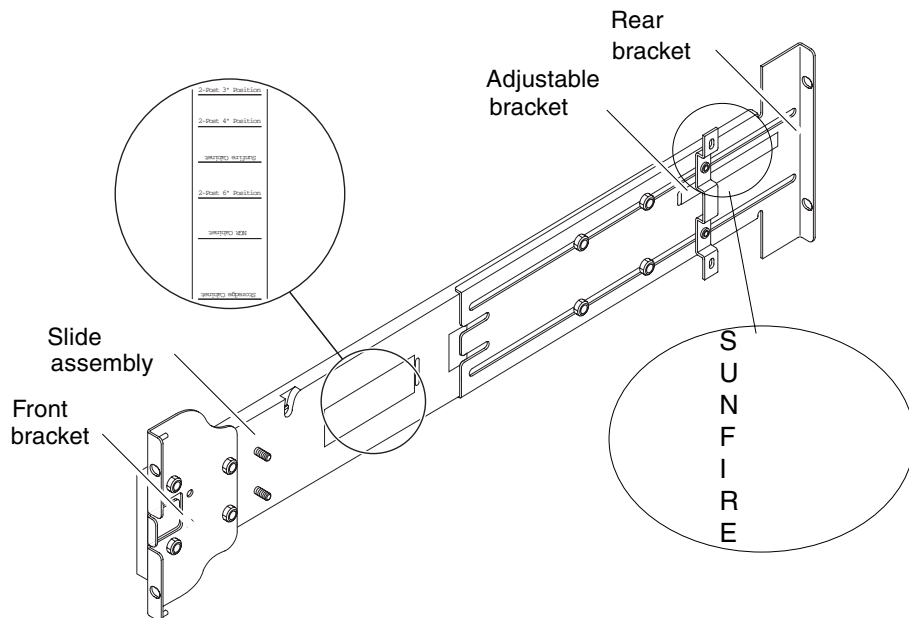

FIGURE 1-1 Rail Assembly (Standard Configuration)
Each rail assembly consists of four components (FIGURE 1-1):
Adjust the rear bracket or the adjustable bracket position to modify the length of the assembly. The slide assembly and the rear bracket have bracket locations for specific cabinets stamped onto the metal. FIGURE 1-1 shows the location of the markings.
1. Remove the nuts that secure the adjustable bracket and discard the adjustable bracket (FIGURE 1-1).